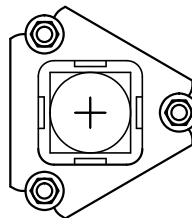

FIGURE 1
1. Install the anchor assembly (M0-4) into the concrete base and align with the traffic flow (see figure 1).
3. Slide 6" stub (M0-2) of breakaway assembly into anchor having the bolt location align with traffic flow (see figure 1) and fasten with two 1/2" x 4" bolts (M-07) washers (M0-7b) and nuts (M-07a).
3. Orientate anchor for correct sign placement (see figure 1, sheet 8 of 14).